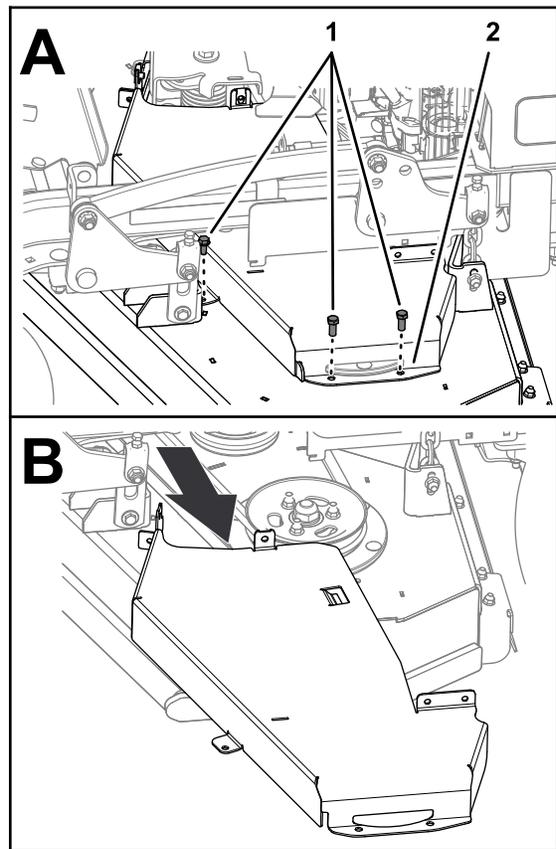

**Figure 7**
3. Remove the 2 carriage bolts and 2 locknuts that secure the left side CE cover to the left belt cover (Figure 7).